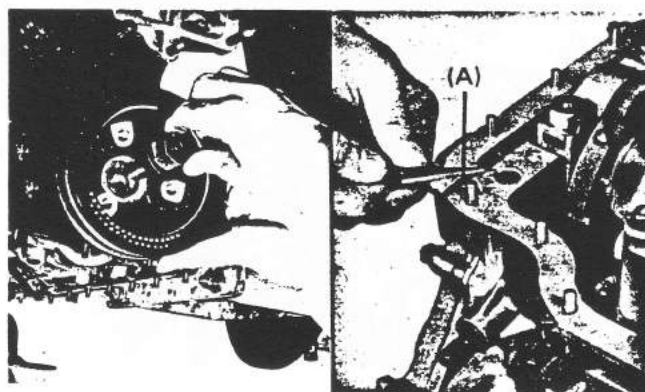

Fig. 123
- Secure the crankshaft pulley to the crankshaft temporarily with lock bolts as shown in Fig. 123.
16. Turn the engine upside down so that the oil pan is in front. Then, cut off the unnecessary parts (A) of the timing chain cover and the packings with a knife.